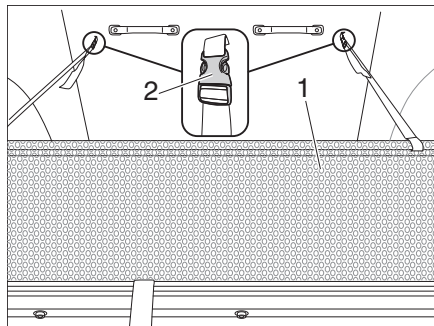

Fig. 47 Falling-out protection
- Pull the falling-out protection (Fig. 47,1) out from under the mattress.
- Fasten the falling-out protection with the strap buckle (Fig. 47,2) to the pop-up roof.
- Loosen the strap buckle (Fig. 47,2).
- Store the falling-out protection (Fig. 47,1) under the mattress.